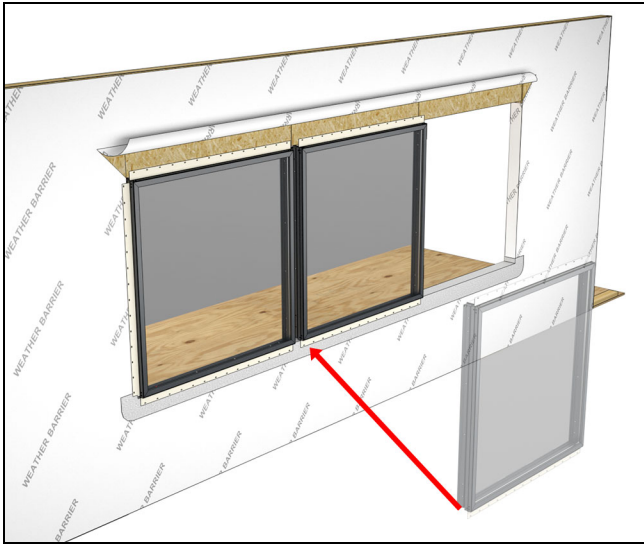
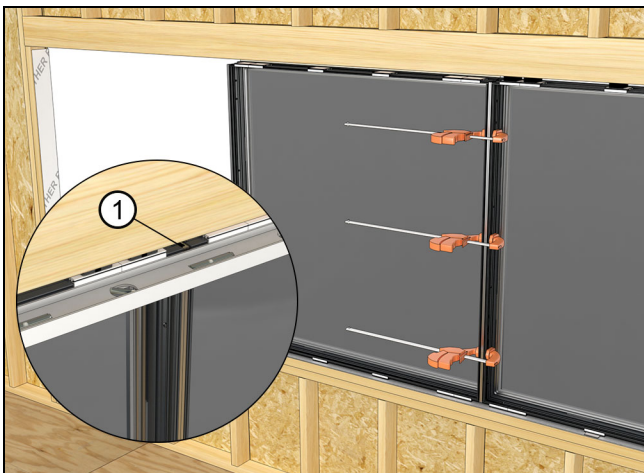

Figure 77
Figure 78
1. Set the next unit close to the A1 unit. Clamp the two units together making sure the windows are flush to one another on all planes (interior/exterior and top and bottom). See Figure 77 and Figure 78.